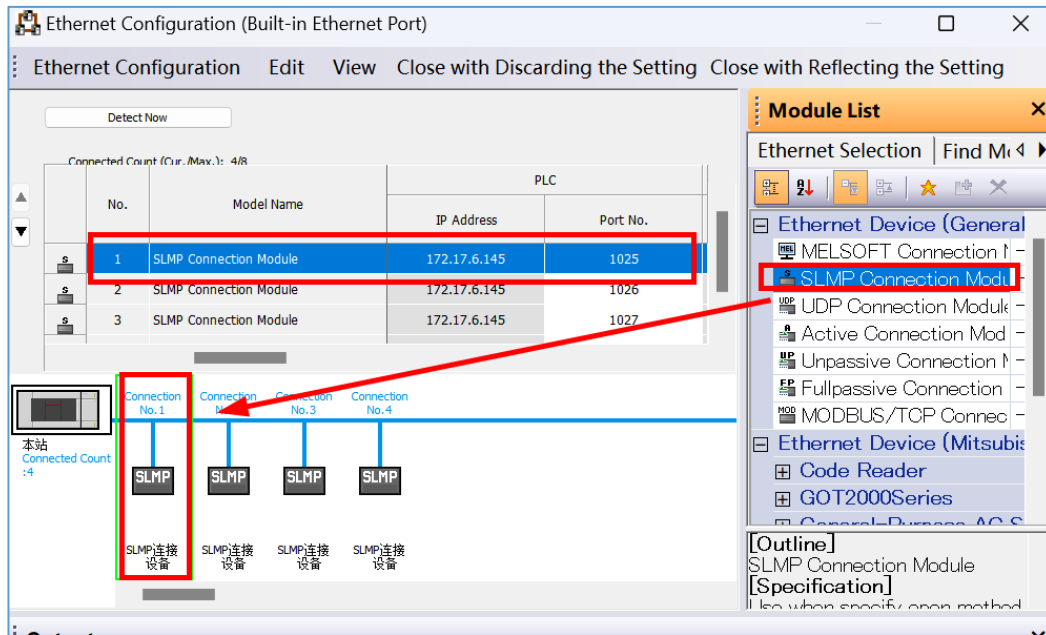

Figure 5
3) After opening, the "Ethernet Configuration (Built-in Ethernet Port)" dialog box will be displayed, select "SLMP Connection module", set the protocol to "TCP" and port number "1025", see Figure 5 for detailed settings, after setting, click "Close with Reflecting the setting".